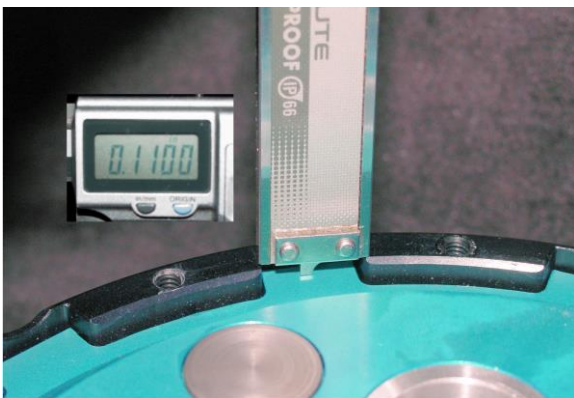
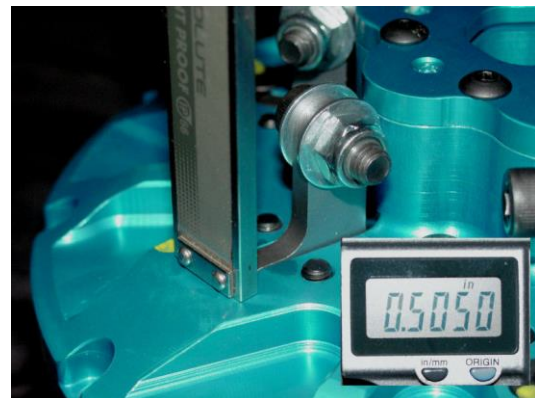

Fig. 1
Fig. 2
- E. The Bottom Spacer is preinstalled in the basket, make sure the bolts are tight. Install the friction and metal plates the same way as with the stock procedure, **start with a thick fiber supplied by MTC**, then steel, then fiber, then steel, continue until you end with a fiber. The other 3 thick fibers and 4 thin fibers can be mixed in at any location in the clutch pack. The Kawasaki ZRX1200 Gen II clutch has (7) steels (7 MTC steels-0.091") and (8) fibers (4- MTC fibers-0.118", and 4- MTC fibers-0.151") plates. The total clutch pack should be approximately 1.720".
- F. Insert the pressure plate on top of the last fiber. The height from the top of the tang, on the pressure plate to the top of the basket should be approximately 0.110" (See Fig. 1). This will give you an air gap below your arms to the buttons of 0.110".
- G. Place the hat assembly on the basket and tighten the twelve (12) allen head cap screws to secure it.
- I. The air gap between the arms and the pressure plate buttons can be measured using the thin bottom section of a caliper. Stick the caliper rod into the slot opening just behind the arm (See Fig. 2) until it hits the top of the button on the pressure plate. Take a height reading to the top of the Gen II hat, this reading should be between 0.490"-0.510". This gives an air gap of 0.100"-0.120". It is better to start with an air gap of 0.100" to compensate for clutch wear. This technique can be used to maintain the air gap, after repeated runs, without removing any part of the clutch.